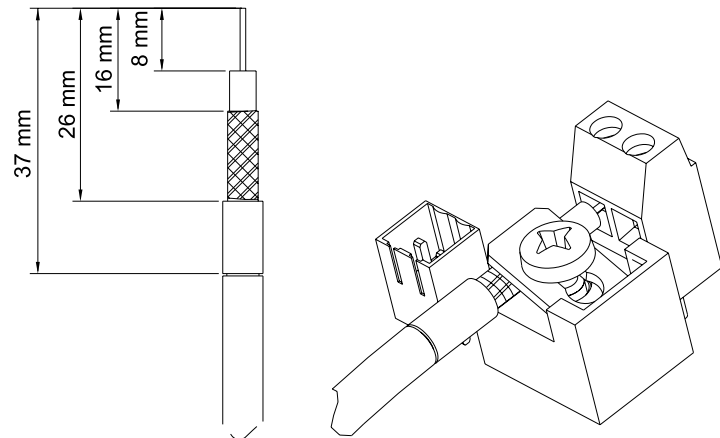

Fig. 12: Removing the cable insulation
1. ➤ Uncover the cable shielding according to Fig. 12